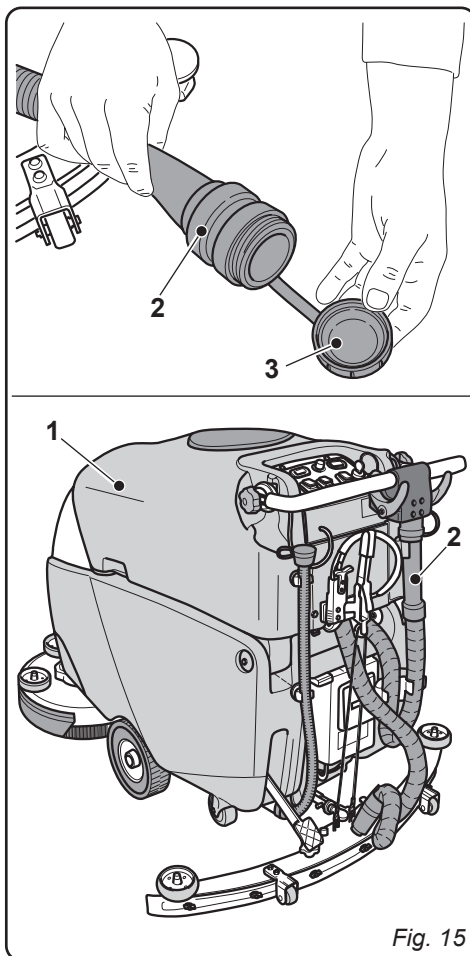

Fig. 15
9.1 DESCARGA DAS ÁGUAS SUJAS (Fig. 15)